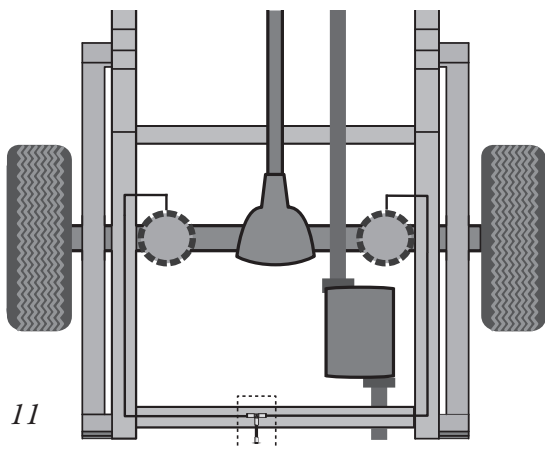
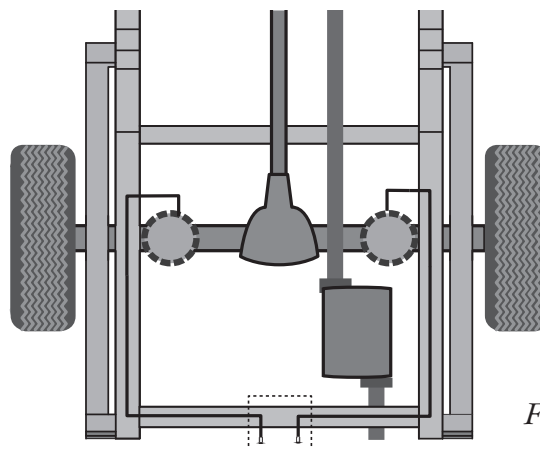

Fig. 11
Fig. 12
1. A single-path air line installation is recommended for vehicles that typically have even weight distribution (Fig. 11). If weight in the vehicle varies from side to side and unequal pressures are needed to level the load, use a dual-path installation. For dual-path air line installations, eliminate the tee fitting (M) and route separate air lines for both air springs (Fig. 12).